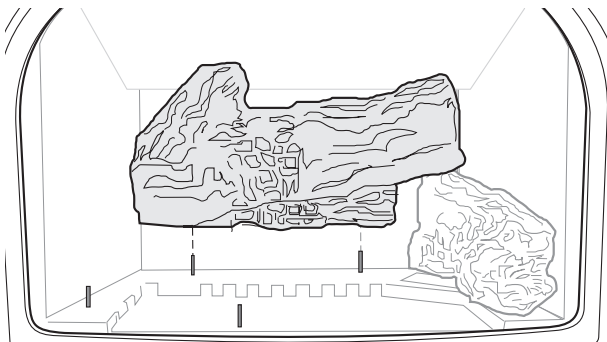

Figure 12. Install Rear Log.
2. Locate the Rear Log to overlap the Right Log and engage with the pegs as in fig. 12.